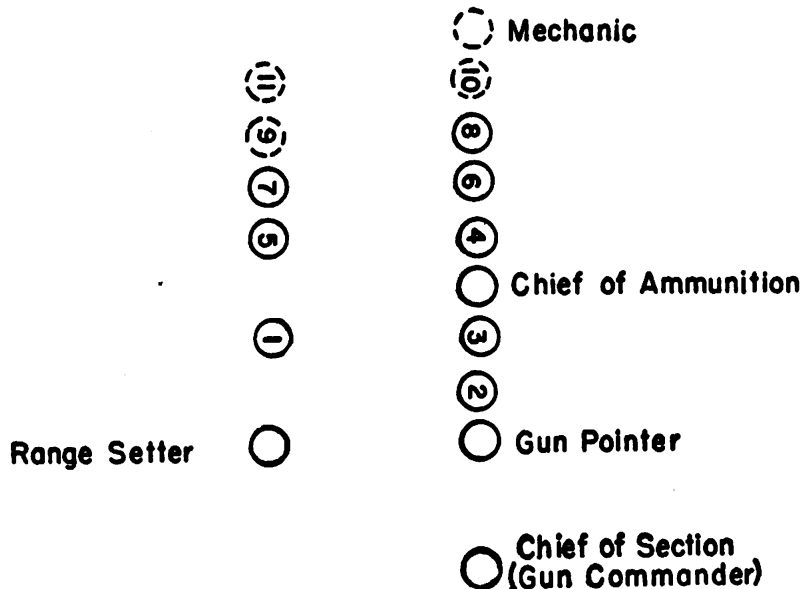

FIGURE 1.—Formation of 3-inch gun section.
7. Notes on drill.—*Q.* What is the formation for the 3-inch gun section? *A.* See figure 1.